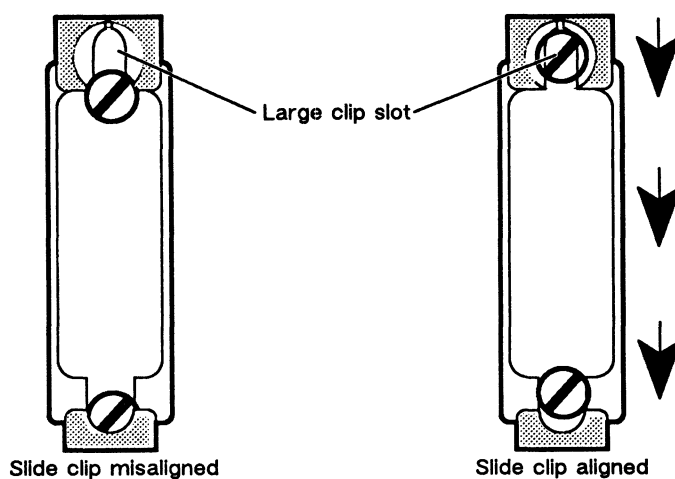

Figure 3-3 Aligning a LAN Connector Slide Clip Before Connection
1. Align the larger mount slot on the clip with the screw behind it as shown in Figure 3-3. This position allows the cable connector to fit completely over the rear panel connector before you secure the connection.